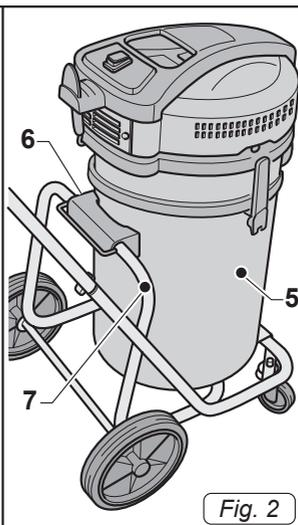

Fig. 2
- Place the cover (5 Fig. 2) on the trolley, setting the support in the plastic (6 Fig. 2) on the trolley's rod (7 Fig. 2).